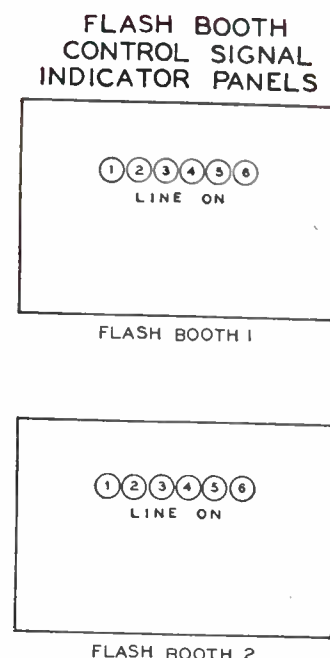

Figure 5
also incorporates the pertinent controls for the two Flash Channel Announcing circuits. Each outgoing line has a three-position key designated FLASH ALERT and a push button key for FLASH ON. The FLASH ALERT key is to automatically preset the outgoing line or lines to either one of two flash announce booths, simultaneously sending a synchronized signal to the respective studios where program is to be interrupted. This synchronized signal will appear concurrently at three places for each individual line in the form of (1) Flashing the LINE ON and GO AHEAD lamps on the associated Studio Control Indicator Panels (2) the ON AIR lamp on the Line Control Panel indicating to Master Control the studios and (3) lines being alerted. The Flash Announcer also receives a like indication. This synchronized ALERT signal continues until the desired Individual Line FLASH ON push button or FLASH GROUP key is operated, thereby "picking up" on all lines which were preset for flash by the FLASH ALERT keys. The Flash Announcers Indicator panel lamps, shown in Figure 5, then remain steadily illuminated for the designated outgoing lines being fed providing an automatic synchronized GO AHEAD signal to the Flash Announcer.
FLASH ANNOUNCERS INDICATOR PANEL — Figure 5, page 24 (Located in Flash Announce Booth)